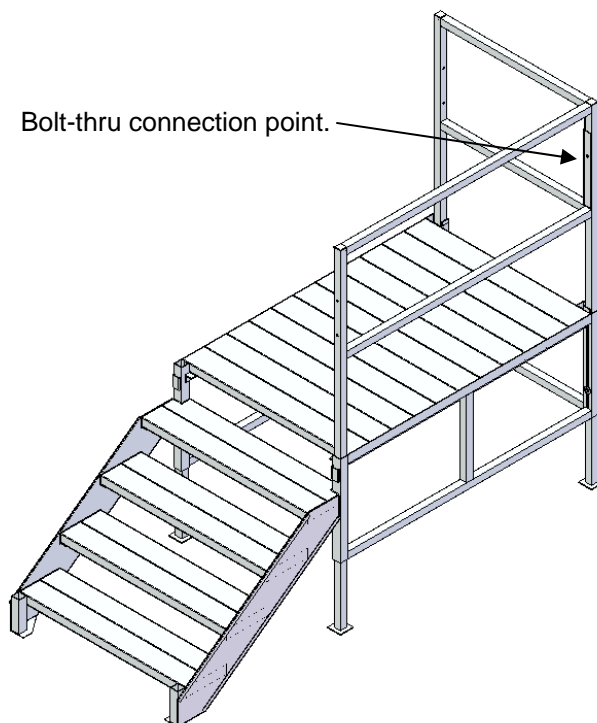

Figure 5: End rail assembly.
-Insert the end rail into the inside corner pocket on the opposite side of the platform from the steps as shown in **Figure 5**. This feature minimizes any building damage caused by the rail post.